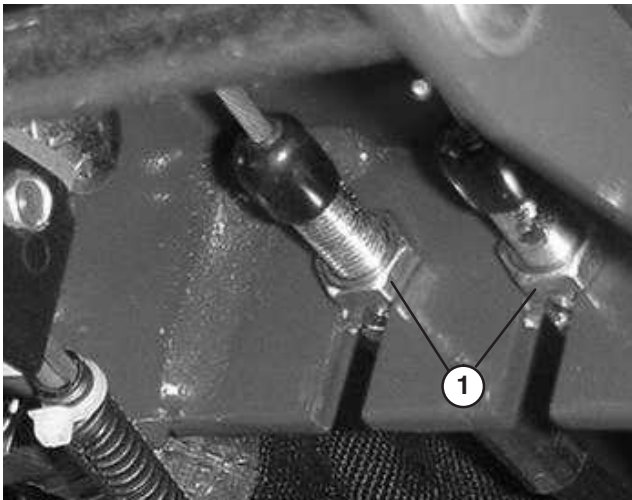

Figure 69
1. To reduce free travel of turn pedals—tighten the brakes—loosen front nut on threaded end of brake cable (Fig. 69). Then tighten rear nut to move cable backward until turn pedals have 1/2 to 1 in. (13 to 25 mm) of free travel. Tighten front nut after brakes are adjusted correctly.